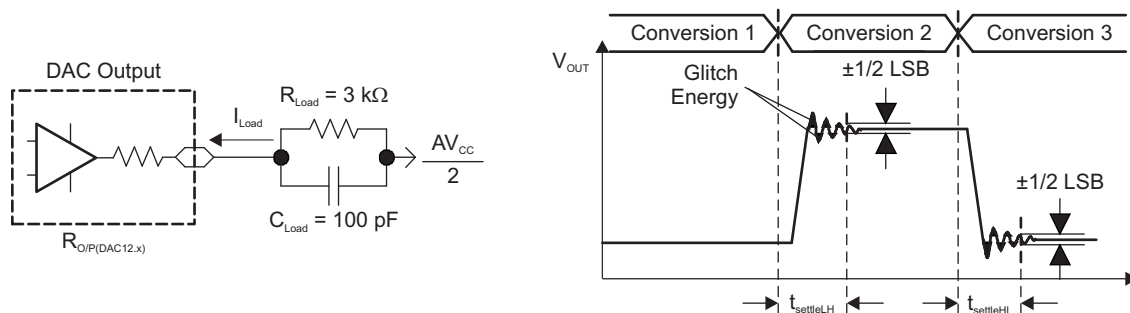
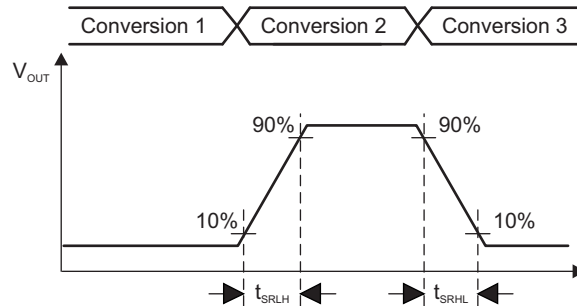

Figure 5-19. Settling Time and Glitch Energy Testing
Figure 5-20. Slew Rate Testing
V_{REF} = V_{CC}, DAC12IR = 1 (see Figure 5-19 and Figure 5-20), over recommended ranges of supply voltage and operating free-air temperature (unless otherwise noted)
| t _{ON} | DAC12 on time | DAC12_xDAT = 800h, Error _{V(O)} < ±0.5 LSB ⁽¹⁾ (see Figure 5-19) | 2.2 V, 3 V | 60 120 | | μs | |
- (1) R_{Load} and C_{Load} connected to AV_{SS} (not AV_{CC}/2) in Figure 5-19.
- (2) Slew rate applies to output voltage steps ≥ 200 mV.